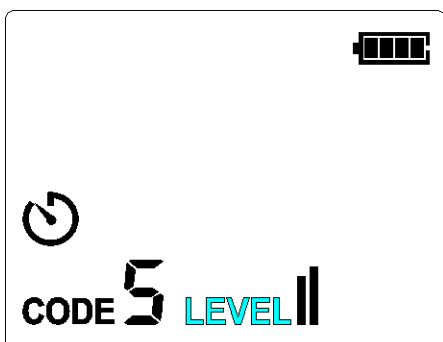

Figure 6.1.2b LEVEL Increasing/Decreasing
3. When the LEVEL symbol flashes, short press the Up/Down button to set the level to ,  or . The default level is . As shown in Figure 6.1.2b